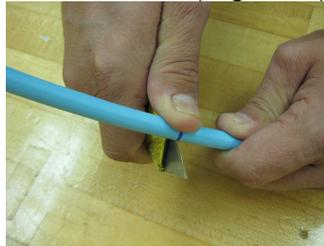

Figure 2- Ring cutting with razor knife.
4.2 Alternate method of ring cut can be made with a razor knife. **Use extreme caution when cutting with a razor knife** (Figure 2)